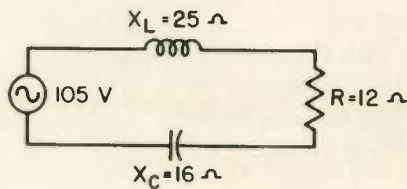

Fig. 55
(1) $26\ \text{V}$. (2) $260\ \text{V}$. (3) $13\ \text{V}$. (4) $130\ \text{V}$.
15. What is the voltage across the inductance in Fig. 55?
(1) $49.5\ \text{V}$. (2) $62.4\ \text{V}$. (3) $125\ \text{V}$. (4) $175\ \text{V}$.
(5) None of the above
16. What is the voltage across the capacitor in Fig. 55?
17. What is the voltage across the resistor in Fig. 55?
(1) $23.8\ \text{V}$. (2) $60\ \text{V}$. (3) $84\ \text{V}$. (4) $105\ \text{V}$.
18. What is the power dissipated in the inductor of Fig. 55?
(1) 0 W. (2) 104.8 W. (3) 441 W. (4) 1225 W.
19. What is the power dissipated in the resistor of Fig. 55?
(1) 0 W. (2) 84 W. (3) 588 W. (4) 918 W.
20. What is the power factor of the circuit of Fig. 55?